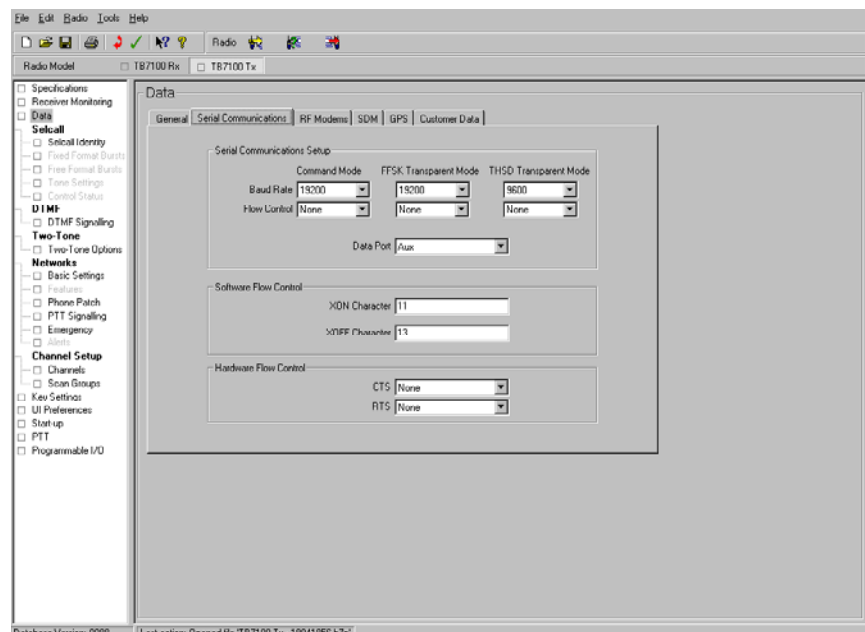

Figure 19
- Under Data>Serial Communications set the following parameters as in **figure 19**: